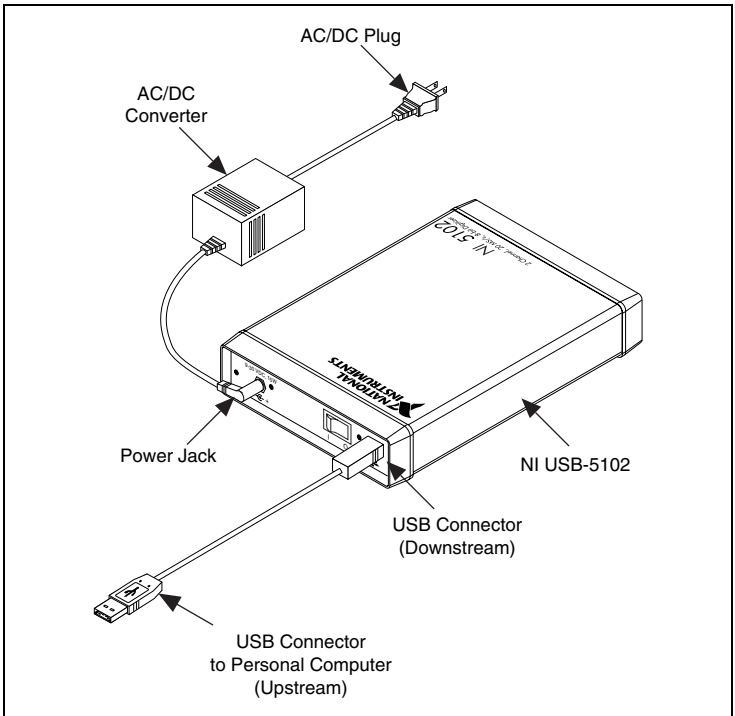

Figure 5. USB Installation
2. Connect the USB cable to the PC and the digitizer, as shown in Figure 5.